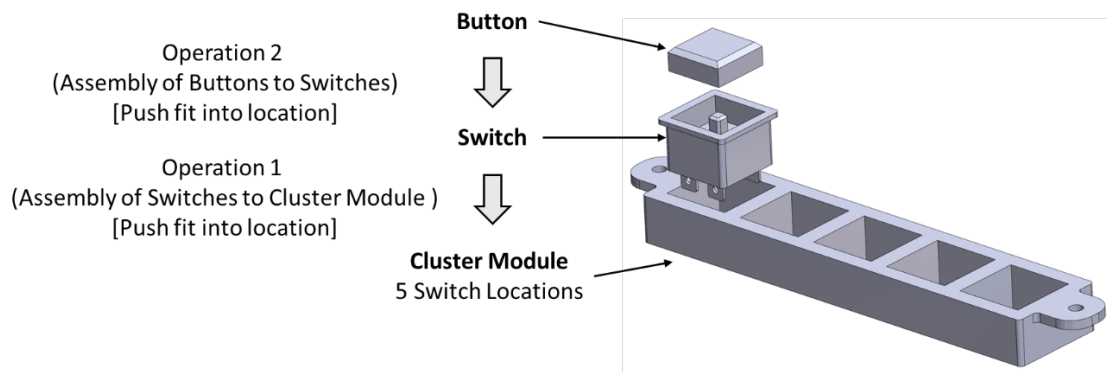

Fig.1 Exploded Assembly View of Switch Cluster Module
- (b) A small manufacturing company produces switch cluster modules for the automotive sector and wants to implement a robotic assembly cell to perform the core mechanical assembly process. Critical to the design of the robotic solution is flexibility, as future orders will require the switch cluster modules to be customised with different switches and button styles and assembled within different module locations. To achieve this, it is proposed that the cell will be controlled by a PLC and three robot arms will be used for the assembly tasks. Each robot arm will be fitted with a tool changer and be capable of selecting a specific end effector for each component type. Additional end effectors will be added to the assembly cell to accommodate future products. Fig. 1 Provides an exploded assembly view of the switch cluster module, with Operation 1 depicting a switch being fitted to the cluster module and operation 2, a button being fitted to a switch. Tables 4 and 5 describes the different inbound and outbound material formats for the cell.